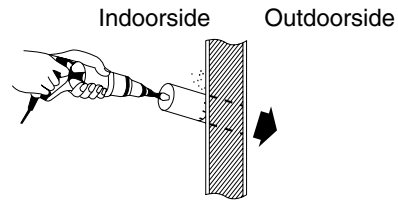

Fig. 3-16
- (4) Using a sabre saw, key hole saw or hole-cutting drill attachment, cut a hole in the wall. (Fig. 3-16)